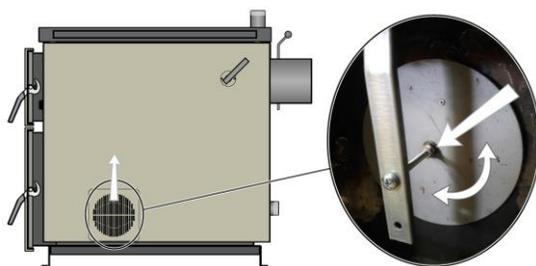

Fig. 9. Correction of air draft regulator valve.
- e) Check for air supply valve grate is not covered (see Fig. 9).